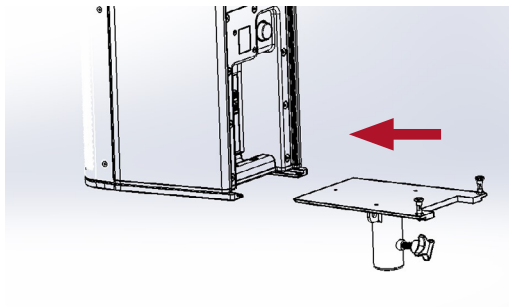

Figure 3 - Slide Pole Mount into place
2. Slide Pole Mount Plate into Slide Plate (Figure 3)